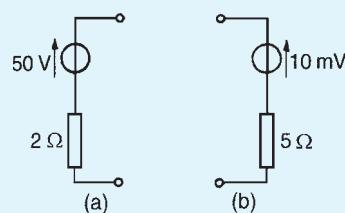

Figure 13.76
1. Convert the circuits shown in Fig. 13.76 to Norton equivalent networks.